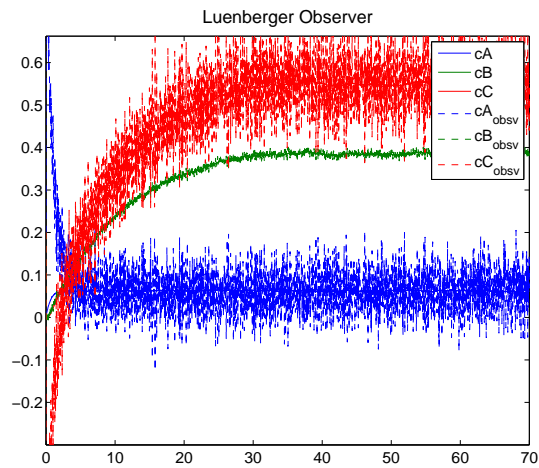

Figure 1: Luenberger Observer, observer ten times faster than system
- Using the rule of thumb and making the error dynamics ten times faster than the system dynamics lead to heavy oscillations around the real state values (cf. Figure 1). The measurement noise is simply amplified by the observer gain. However, by analyzing the system eigenvalues one can achieve a much better tuning. The eigenvalues and corresponding eigenvectors are: